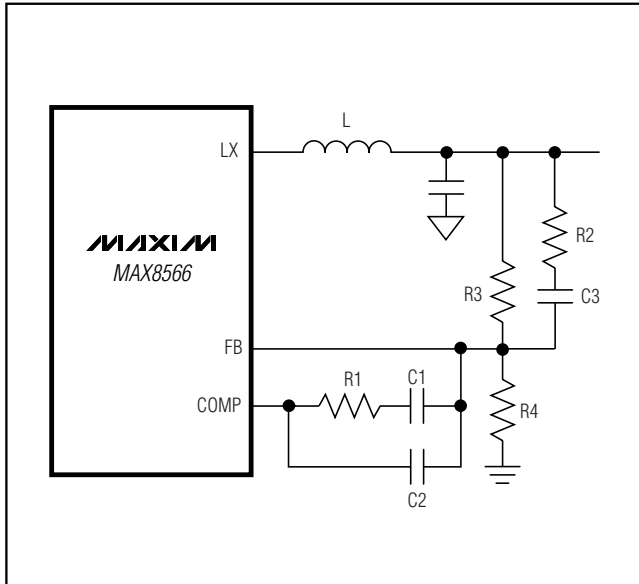

Figure 4. Type 3 Compensation Network
The high switching frequency range of the MAX8566 allows the use of ceramic output capacitors. Since the ESR of ceramic capacitors is typically very low, the frequency of the associated transfer-function zero is higher than the unity-gain crossover frequency, f_c , and the zero cannot be used to compensate for the double pole created by the output filtering inductor and capacitor. The double pole produces a gain drop of 40dB and a phase shift of 90 degrees per decade. The error amplifier must compensate for this gain drop and phase shift to achieve a stable high-bandwidth closed-loop system. Therefore, use Type 3 compensation as shown in Figure 4. Type 3 compensation possesses three poles and two zeros with the first pole, f_{P1_EA} , located at 0 frequency (DC). Locations of other poles and zeros of the Type 3 compensation are given by:
Begin by setting the desired output voltage. The output voltage is set using a resistor-divider from the output to GND with FB at the center tap (R3 and R4 in Figure 4). Use 20kΩ for R4 and calculate R3 as: